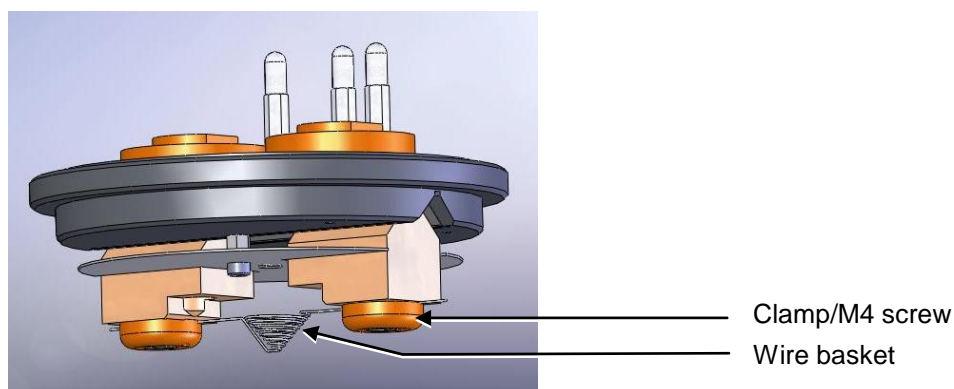

Figure 7-7. Fitting the metal evaporation insert for downwards evaporation
This section describes the installation of the metal evaporation insert (10457) designed for downwards evaporation (see **Figure 7-7**). To install the stage:
3. Fit the wire basket so that it lies diagonally across the screws and between the clamps and the terminals (see **Figure 7-7**).